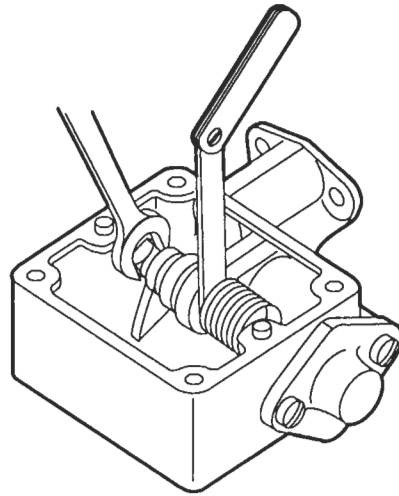

Figure 1. Adjusting Governor Gap
4. Check the governor gap by inserting a .006 inch feeler gage between the operating speed spring plunger and the governor boss (Figure 1.)